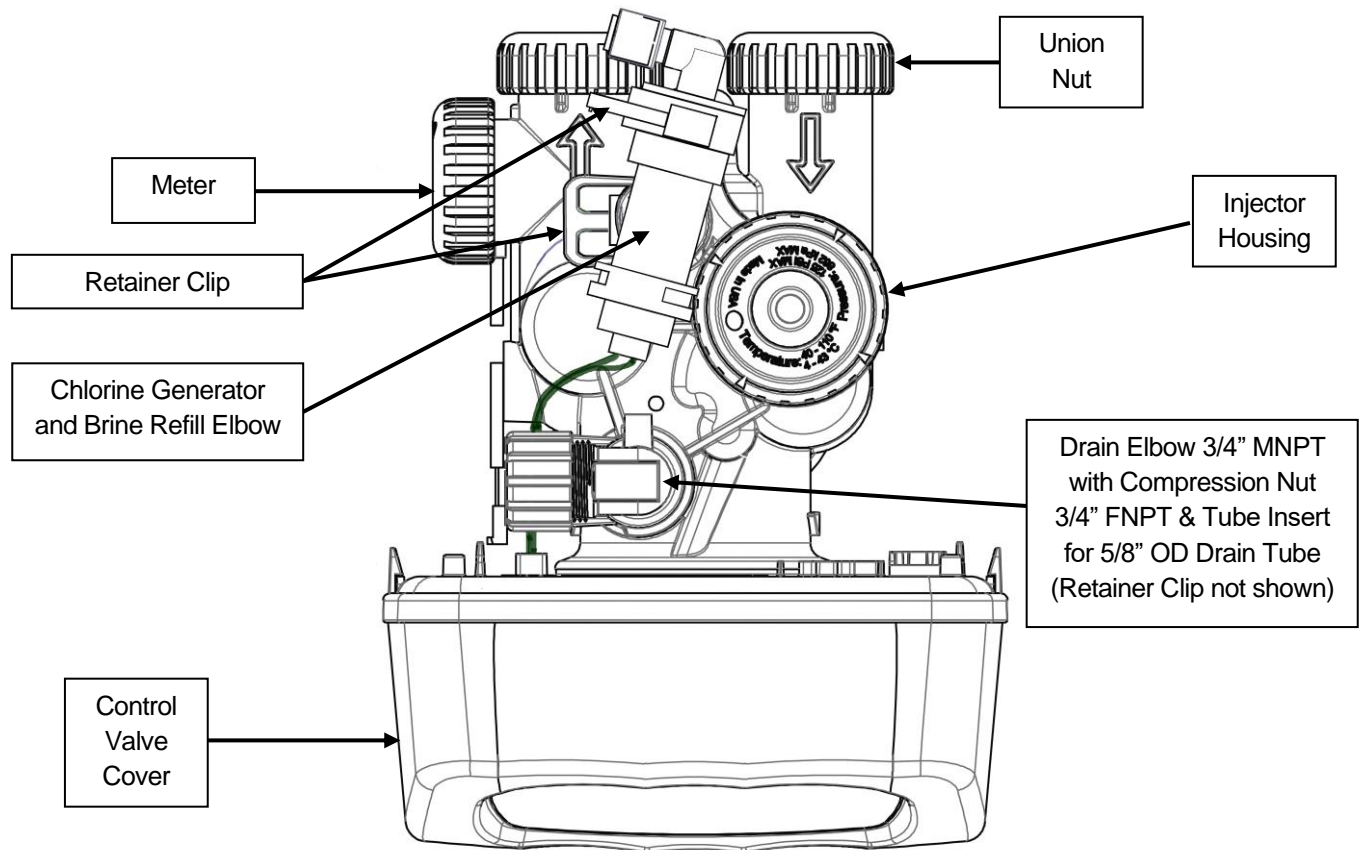
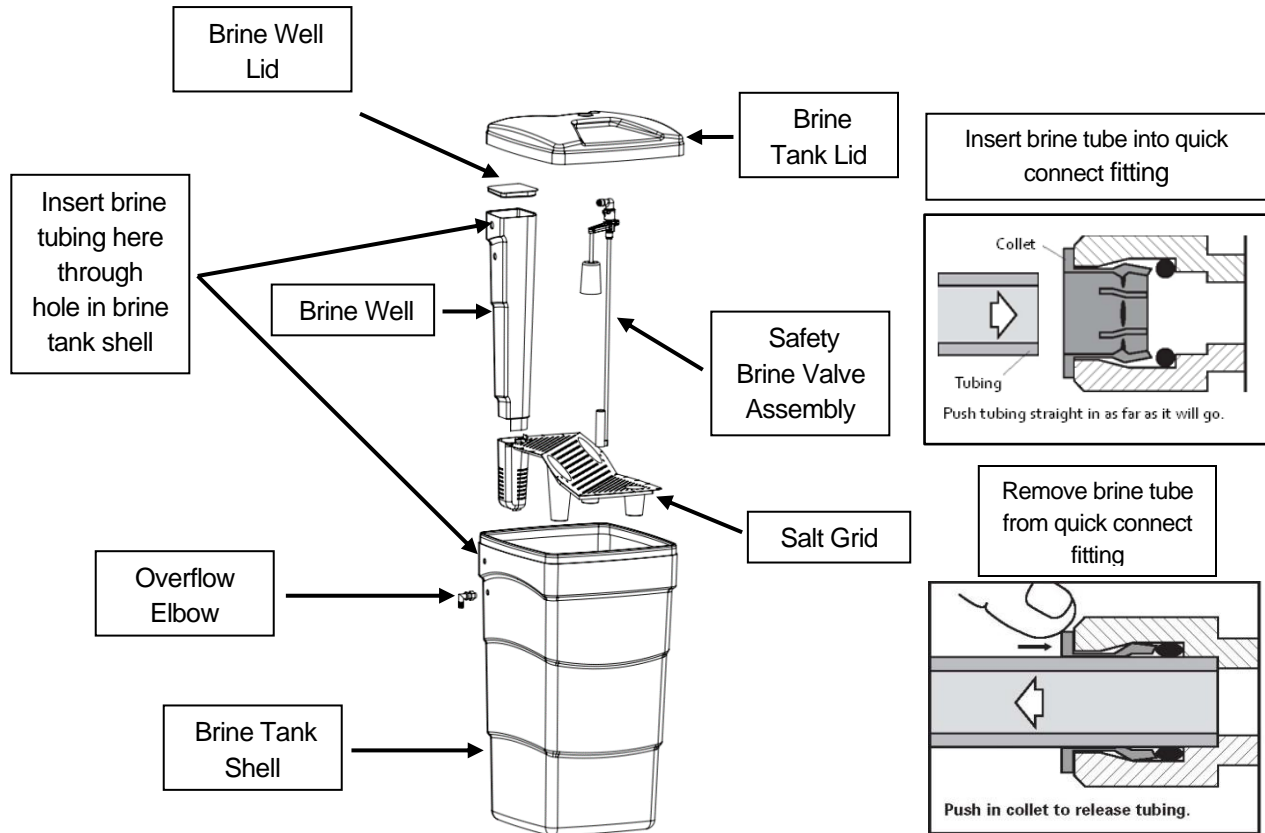

FIGURE 2: Top View of Control Valve
FIGURE 3: Brine Tank Components
- STEP 6:** Use the provided polyethylene tubing (**NO VINYL TUBING**) to run drain line from control valve drain fitting (Figure 2) to floor drain or sump pit capable of handling the backwash rate of the softener (refer to specifications on Page 12). **THE DISCHARGE END OF THE DRAIN LINE MUST BE FIRMLY SECURED!** There must be an air gap at the end of the drain line to prevent siphoning of wastewater and meet plumbing code. Total length of drain line should be 15' or less. AVOID OVERHEAD DRAINS.
- STEP 7:** Connect one end of the 3/8" brine line to the control valve quick connect brine refill elbow (Figure 2, Page 5). Insert the other end of the brine line through the hole in the brine tank and into the quick connect fitting on the top of the safety brine valve (Figure 3). Remove the quick connect collet retainer clip (if included) before inserting the brine line into each fitting, press the tube in very firmly and replace the retainer clip behind the collet. **NOTE: THE BRINE TUBING SHOULD BE INSERTED 5/8" INTO THE FITTING. DO NOT PUT SALT INTO THE BRINE TANK AT THIS TIME.**
- STEP 8:** If desired, install overflow tubing (not provided) from overflow elbow on brine tank (Figure 3) to floor drain. Tubing must be lower than the overflow elbow at all times. **DO NOT CONNECT DRAIN LINE FROM SOFTENER CONTROL VALVE TO BRINE TANK OVERFLOW. DO NOT CONNECT BRINE TANK DRAIN LINE TO THE SOFTENER DRAIN LINE.**